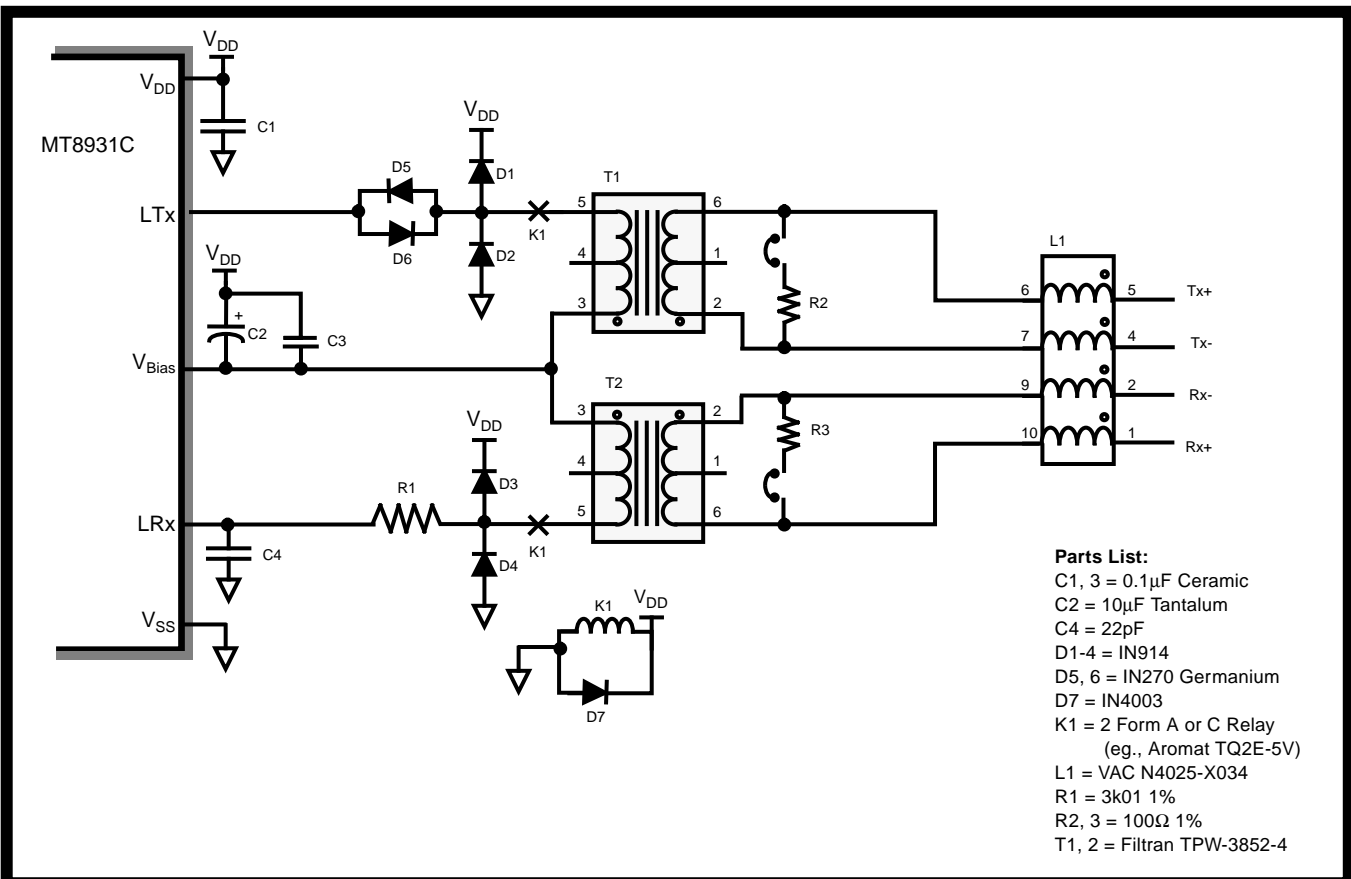
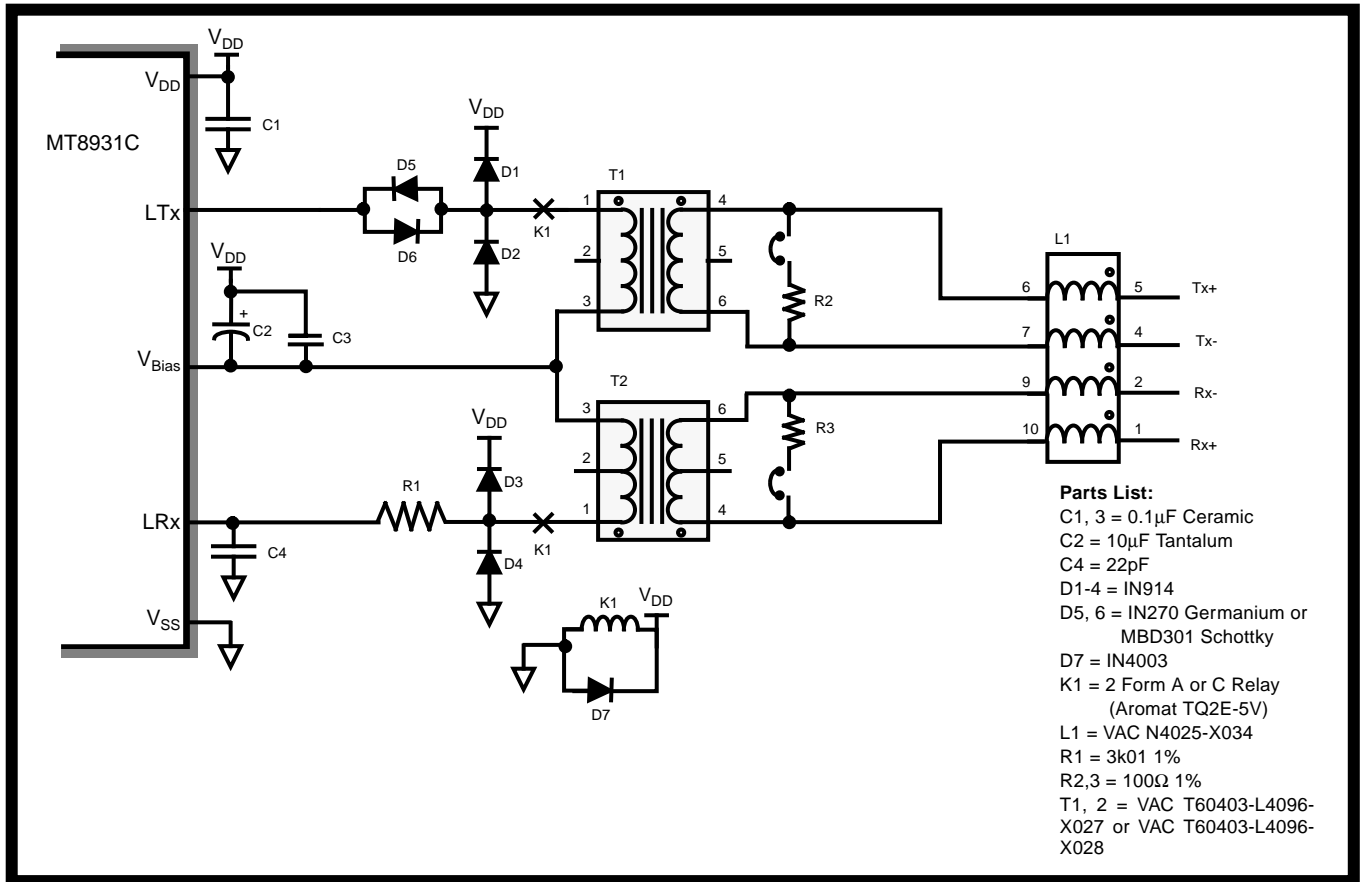
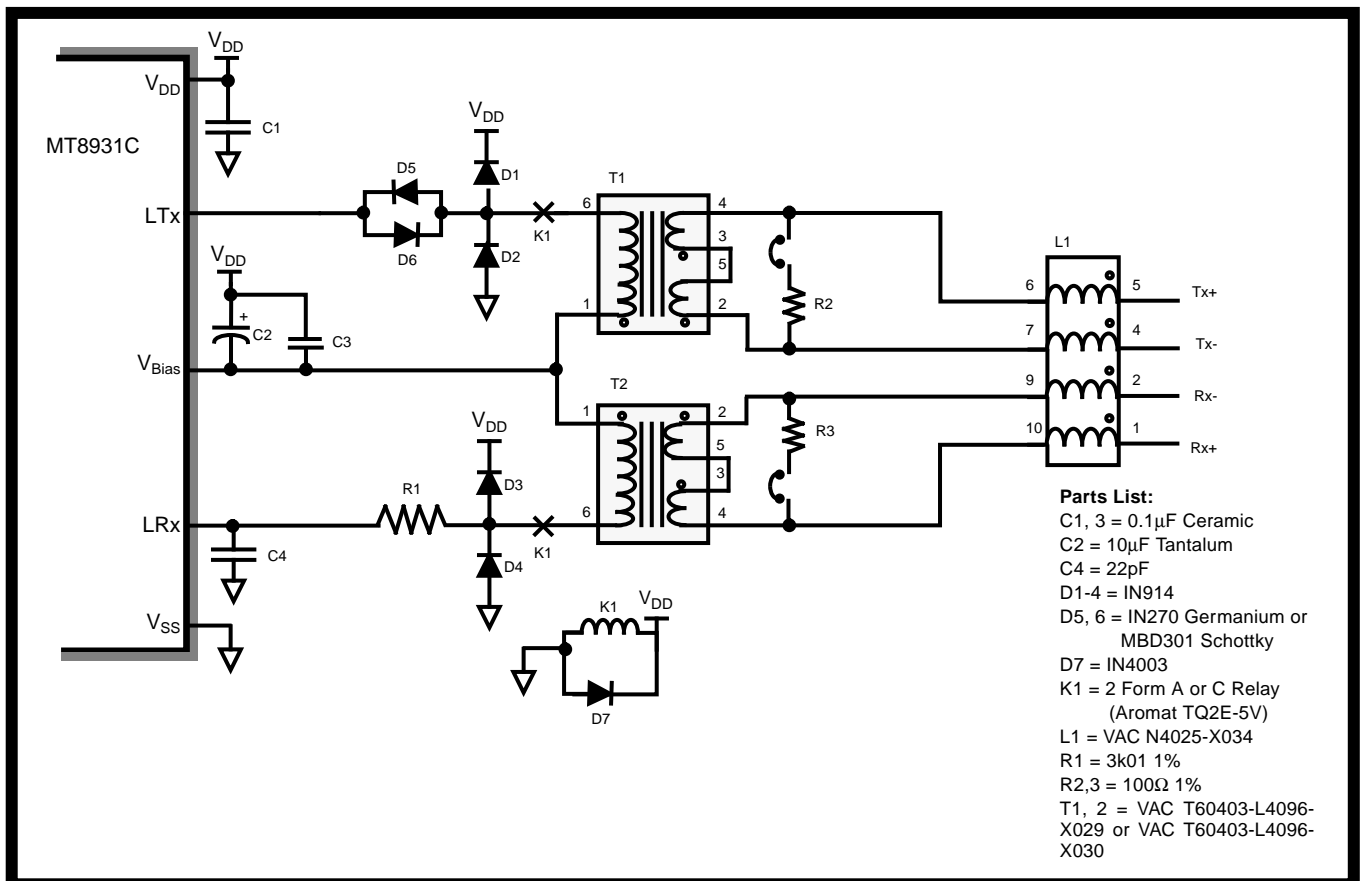

Figure 20 - ETS 300-012 NT & TE Line Interface for Filtran TPW-3852-4
Figure 21 - ETS 300-012 NT & TE Line Interface for VAC X027 or X028
Figure 22 - ETS 300-012 NT & TE Line Interface for VAC X029 or X030
Figures 20, 21 and 22 show the recommended line interface circuits for meeting the ETS 300-012 requirements. These circuits assume that test measurements are made using the "standard reference cord" which has the following specifications:
- Filtran TPW-3852-4 (Figure 20)
- VAC T60403-L4096-X028 (Breakdown Voltage 4KV) (Figure 21)
- VAC T60403-L4096-X027 Breakdown Voltage 2KV) (Figure 21)
In Figure 20, T1, 2 (Filtran TPW-3852-4) provides isolation, longitudinal balance, impedance matching and voltage level conversion. D5 and 6 (germanium) ensure that the pulse shape lies within the center of the various pulse templates. D1-4 protect the MT8931C from line transients. C2, 3 decouple the VBias voltage and optimize the receiver sensitivity. R1 and C4 make up a low-pass filter recommended for delaying the signal in TE applications, this filter can also be used for NT applications allowing common hardware for TE and NT applications. K1 isolates the MT8931C from the line for multidrop applications in cases where the device is powered down. L1 is 4-winding 5mH common mode choke to suppress EMI on the 4-wire line.
In Figure 21, two types of diodes (germanium 1N270 or schottky MBD301) can be used for D5,6. 1N270 will leave more margin for pulse template and longitudinal conversion loss. However, MBD301 will leave more margin for impedance template. All other components are as described previously for Figure 20.
In Figure 22, everything is the same as in Figure 21, except transformer pin out.